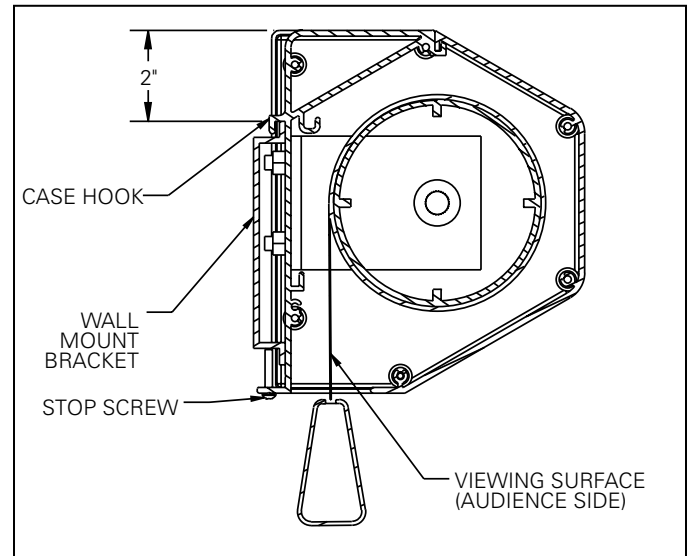

FIGURE 1
5. Mount the screen case on the wall bracket as shown in figure 1. Be sure the case is fully seated on the bracket. Tighten the stop screws against the wall bracket.